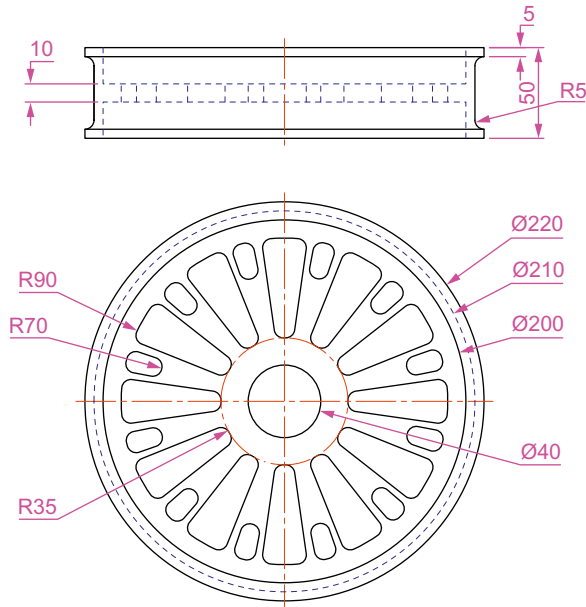

Fig. 18.11 Seventh example – Color faces tool – details of the 3D model
1. Construct a 3D model of the wheel to the sizes as shown in Fig. 18.11.